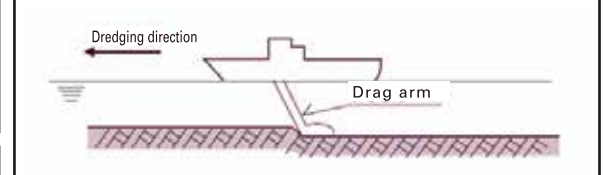

Fig. 8 Kaishomaru lights and shapes
- 2) When dredging is under way, lights and shapes will be displayed on the dredge as per the Act on Preventing Collision at Sea (Fig. 8).